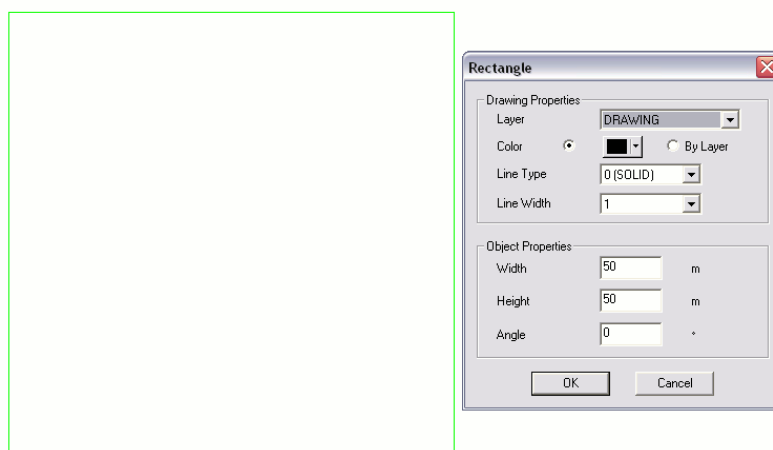

Figure 4-6
4. In the previous tutorial we did not draw in any background information. This is not usual, since in most cases you need to have the area, fence lines etc laid out before you can draw in the hydraulic system. We will enter some basic background information in this design. Select *Draw/Rectangle/2 Point* and place the first point on the screen by left-clicking. Move the cursor and click again to place the opposite corner of the rectangle (the second point). Select *Modify/Change* and click on the boundary of the rectangle. In the dialog change the “Width” and “Height” to **11.5ft (3.5m)** as in Figure 4-6. Click **[OK]**.